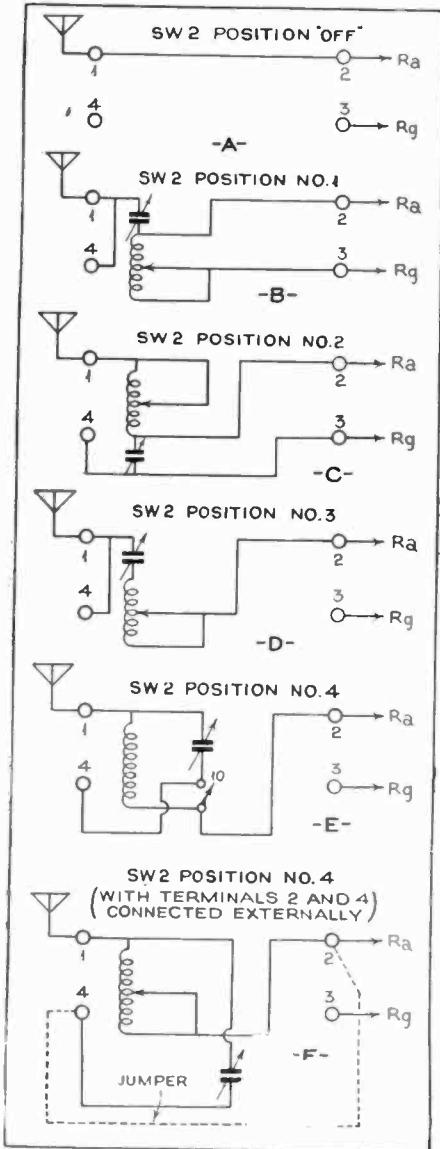

Figure 73
Figure 73 shows at (B), (C), and (D) the three antenna tuning circuits of this unit. (D) is the conventional series tuned circuit while (B) and (C) are series parallel circuits. In general, circuit (D) is most effective with receivers having low-impedance inputs while (B) and (C) are most successful with receivers having medium- and high-impedance inputs. It is not always possible to say in advance which one of these three circuits will work best with any one receiver but an instantaneous change from one circuit to the other is obtainable by means of the circuit selector switch SW2. In using this Trap-Circuit Tenatuner therefore it is only necessary to connect it ahead of your receiver. This is accomplished by connecting your antenna to terminal 1, the antenna binding post of your receiver to terminal 2 and the grounded ground binding post of your receiver to terminal 3.
The circuits (E) and (F), Figure 73, are wave-trap circuits. (E) is intended primarily for use in superheterodynes having an intermediate frequency around 465 kc. and is used to eliminate interference picked up at the intermediate frequency. It will also function as a wave trap over a good part of the broadcast-band. If there are powerful local stations toward